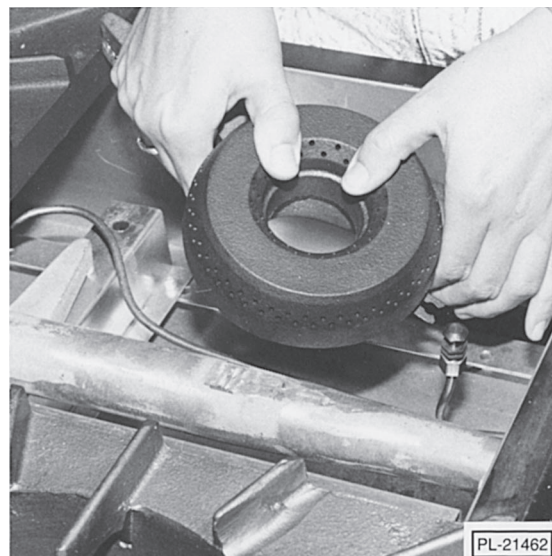

Fig. 32
8. Remove top burners, if required, to access the thermostat (Fig. 32).